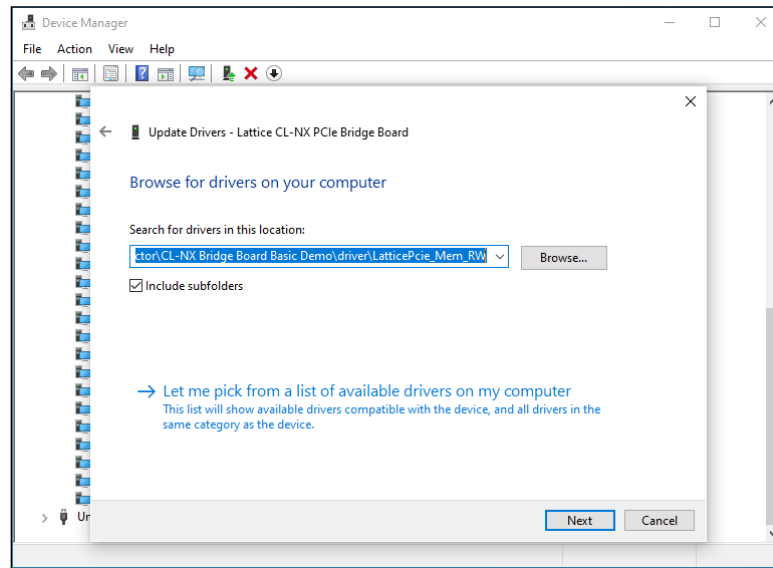

Figure 5.42. Browse the Driver for Device
6. Browse for the Basic Demo device driver as shown in Figure 5.42.